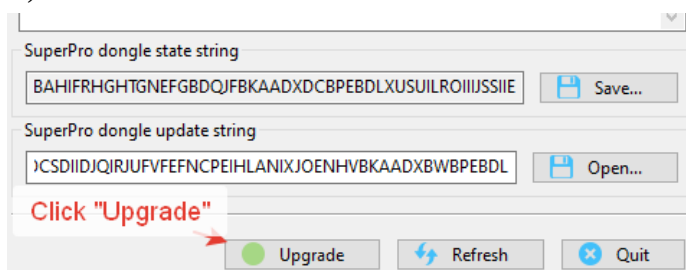

Fig. 2.12. Key upgrading
- With the dongle update string, press the "Upgrade" button (Fig. 2.12).